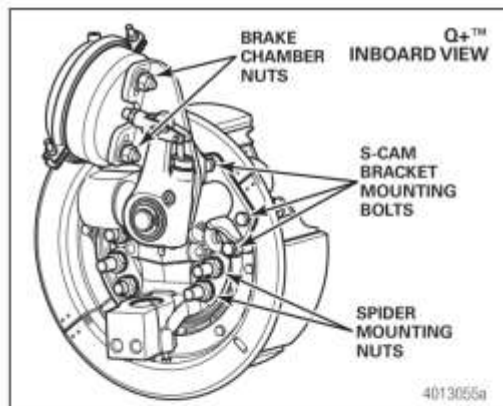
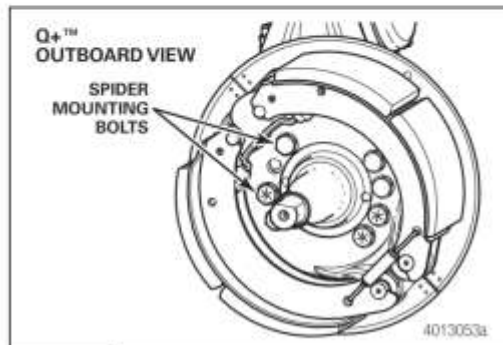
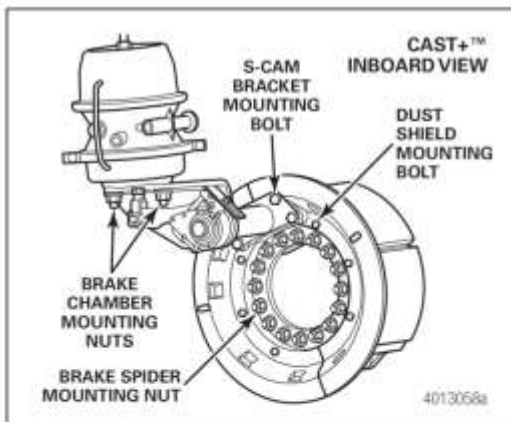
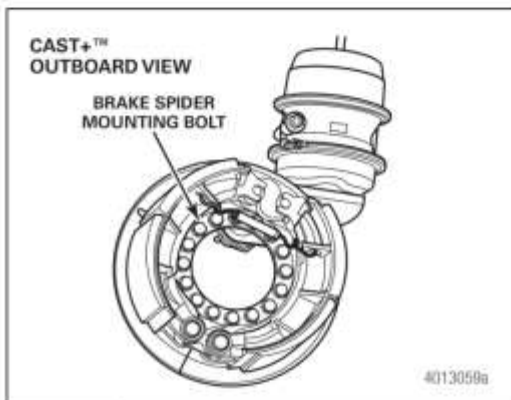

Figure 1
Figure 2
Figure 3
Figure 4
2. Inspect for the following conditions which may indicate a loss of clamp or loosened fastener. Refer to Figure 1, Figure 2, Figure 3 and Figure 4 for fastener locations.